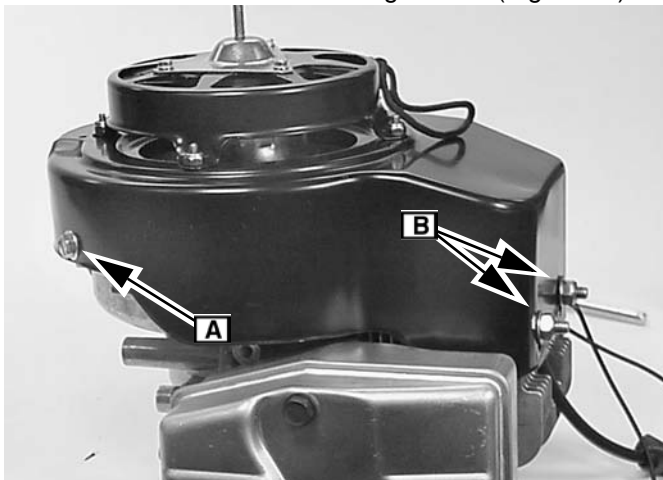

Fig. 86
5. Install front blower housing screws (Figure 86).